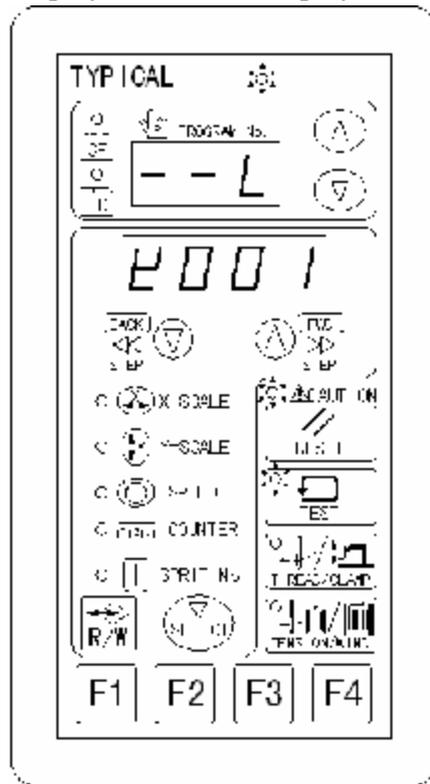

Fig. 6-14
2. Lower the needle by handwheel, and stop when it almost contacts “origin” position in the template. Use arrow key to move machine needle from origin to point A, with operation panel shown as Fig. 6-14 in moving process. And [K001] displayed on menu display indicates the key point. After moving to point A, press